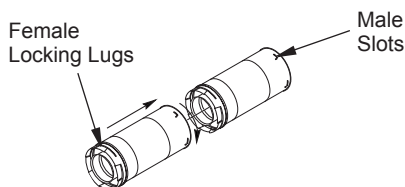

Figure 8 - Vent Pipe Connections
Twist-Lock Procedure: The female ends of the pipes have locking lugs (indentations). These lugs will slide straight into matching slots on the male ends of adjacent pipes. Push pipe sections together and twist one section clockwise approximately one-quarter turn until the sections are fully locked (see Figure 8). **Note:** Horizontal runs of vent must be supported every three feet. Use wall straps for this purpose.
2. Assemble the desired lengths of pipe and elbows necessary to reach from the fireplace flue up through the firestop. Be sure all pipe and elbow connections are fully twist-locked (see Figure 8, page 10).